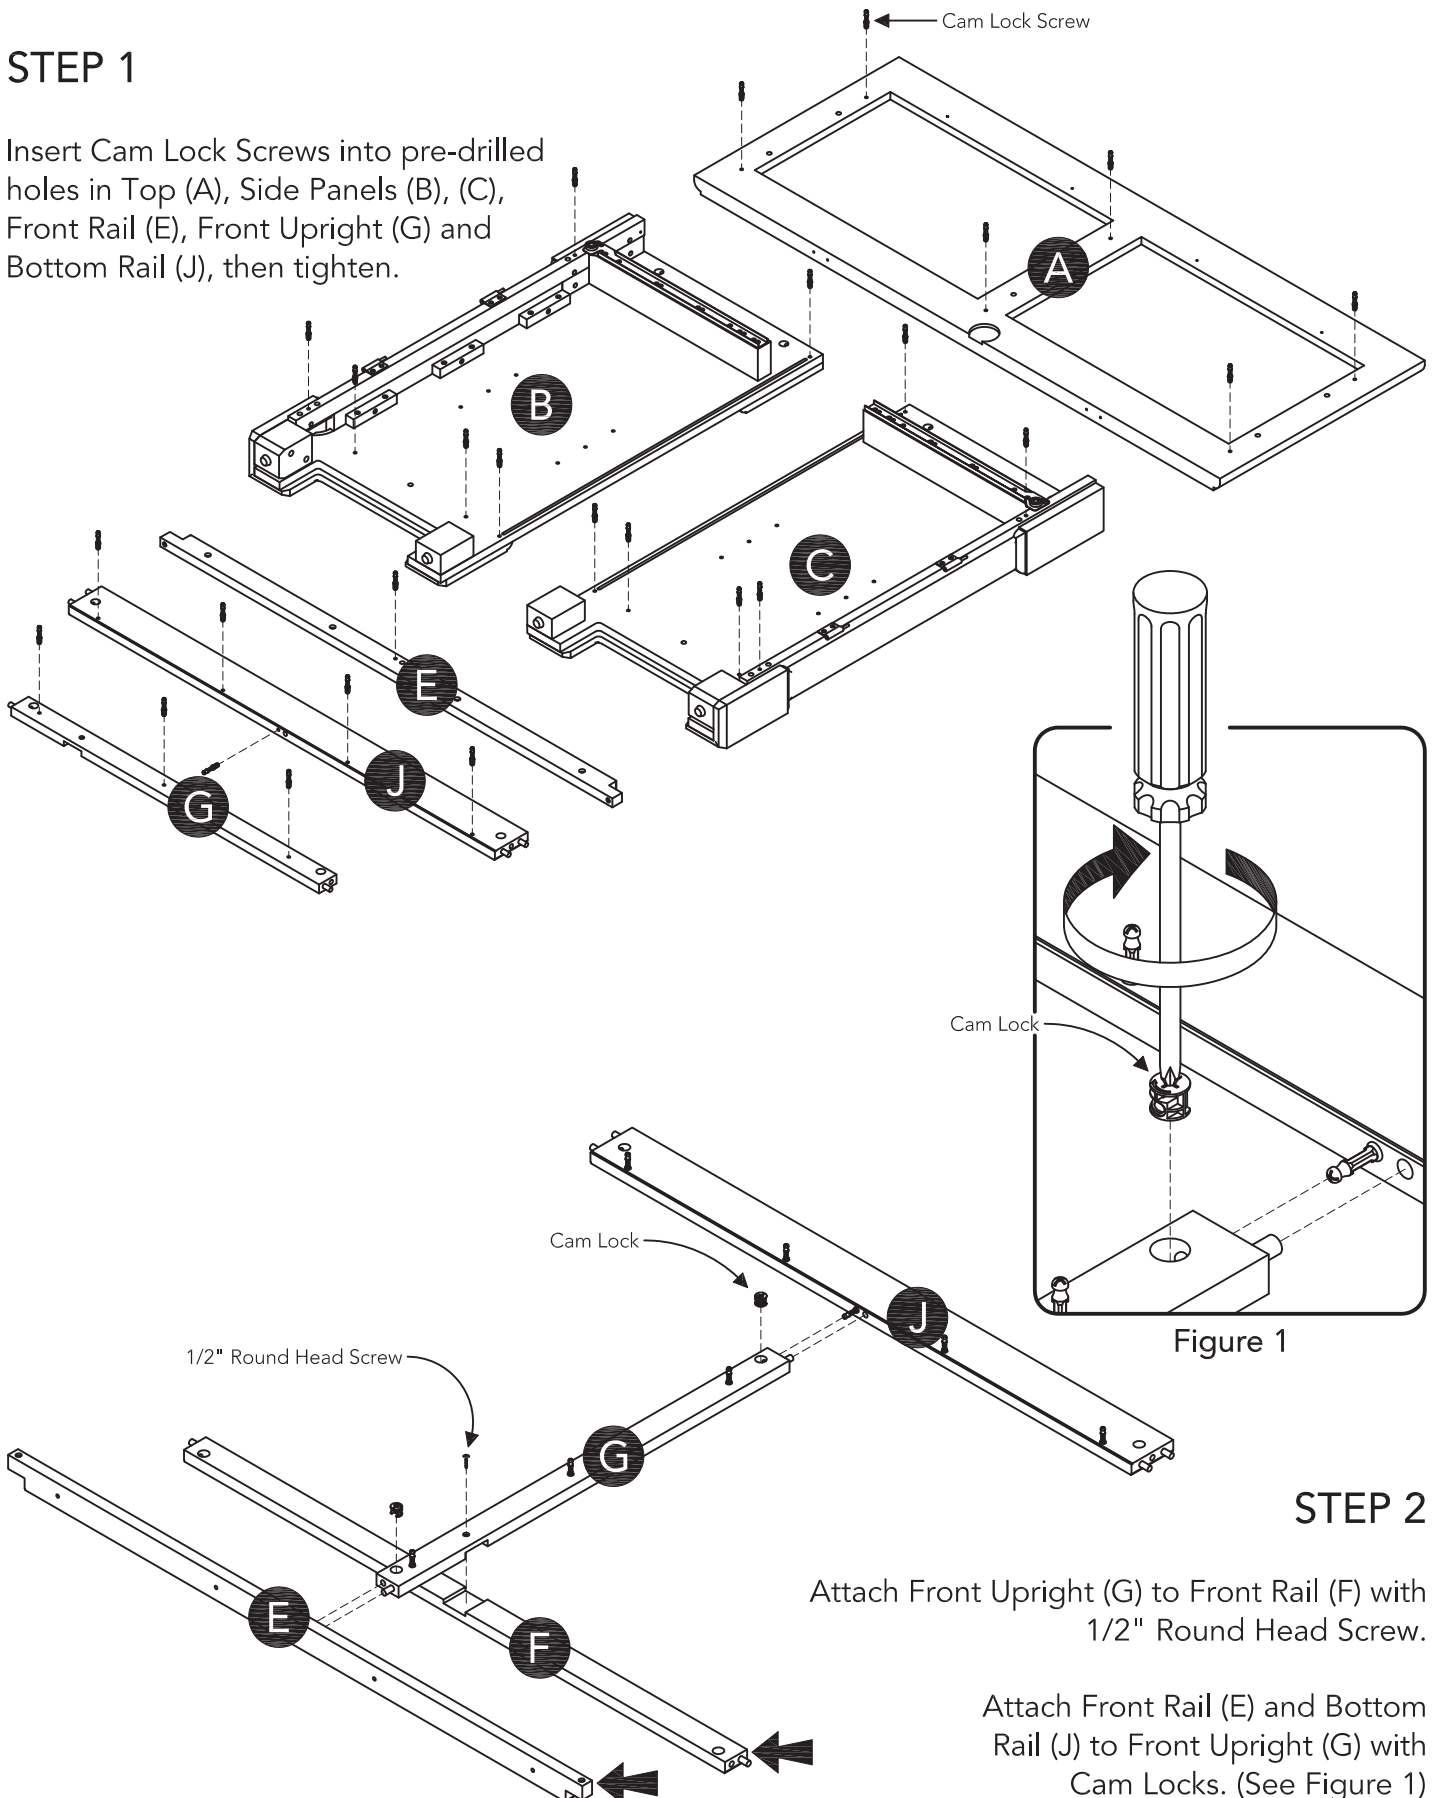

Figure 1
Attach Front Rail (E) and Bottom Rail (J) to Front Upright (G) with Cam Locks. (See Figure 1)